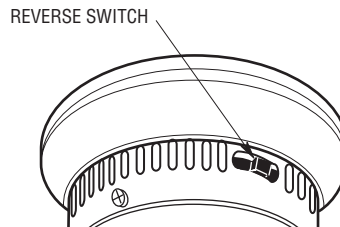

Figure 11
- 3. All fans are shipped from the factory with the reversing switch positioned to circulate air downward. If airflow is desired in opposite direction, turn your fan OFF and wait for the blades to stop turning, then slide the reversing switch to the opposite position, and turn fan on again (Figure 11).